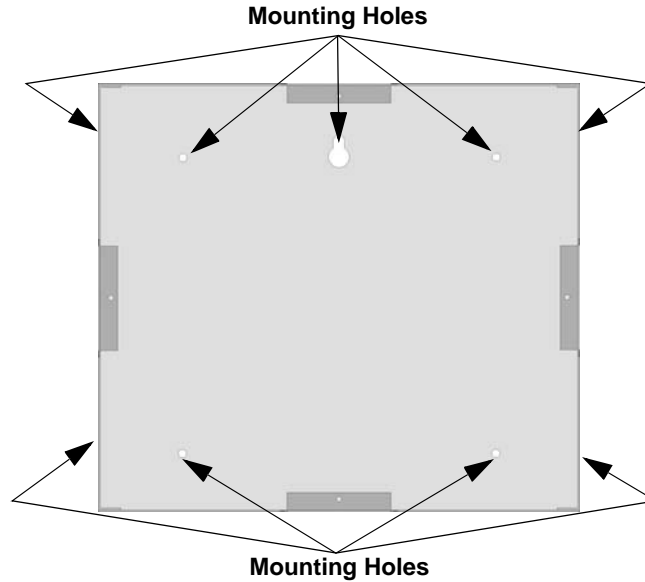

Figure 4-12 Backbox Mounting Holes
1. The backbox dimensions are 9 1/4" W x 8 3/8" H. The backbox can be mounted prior to the complete installation of the RA-2000 using any of the mounting holes shown in Figure 4-12.